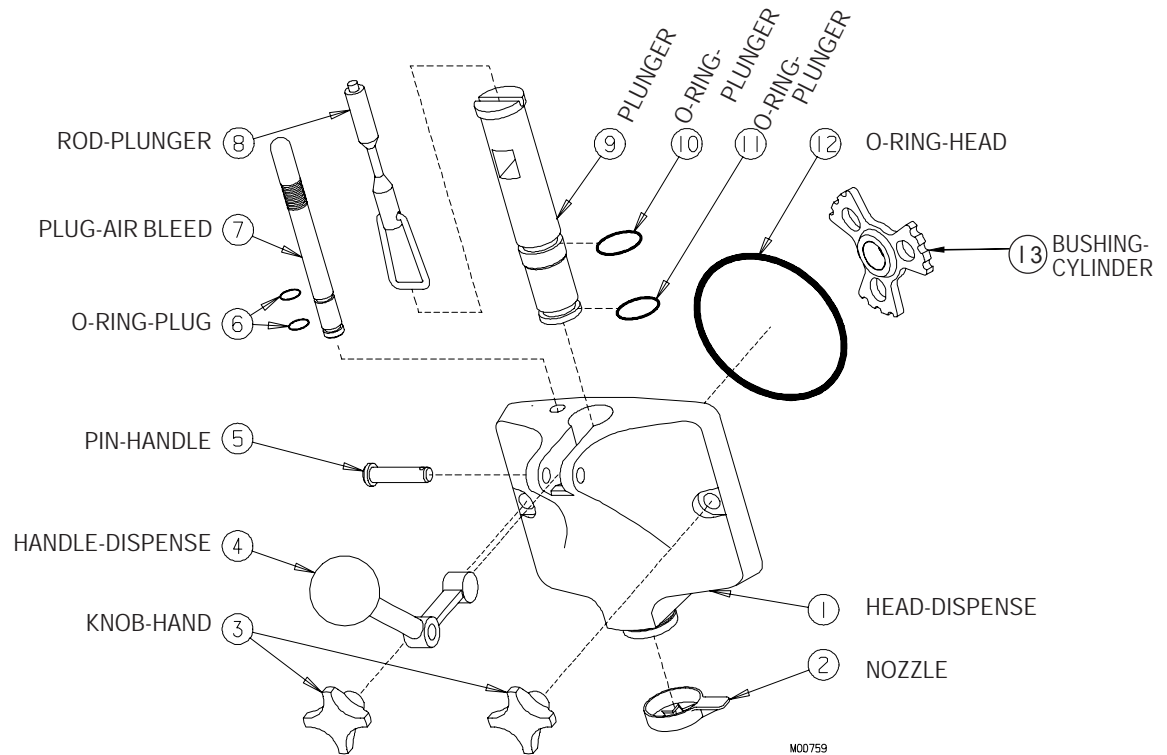

Figure 7-4 30RMT Head Assembly
1. (Refer to figure 7-4.) Install and then lubricate the O-rings (10-11) on the plunger (9) and insert plunger halfway into dispensing head (1).
2. Install and then lubricate the 4-inch head O-rings (12).
3. Position the handle (4) in the plunger (9) and dispensing head (1). Lock in place with the handle pin (5).
4. Install and lubricate O-rings (6) on the air bleed plug (7). Insert plug in the dispensing head (1) assembly.
5. Lubricate the inside bearing surface of the cylinder bushing (13) and place on the end of the beater shaft.